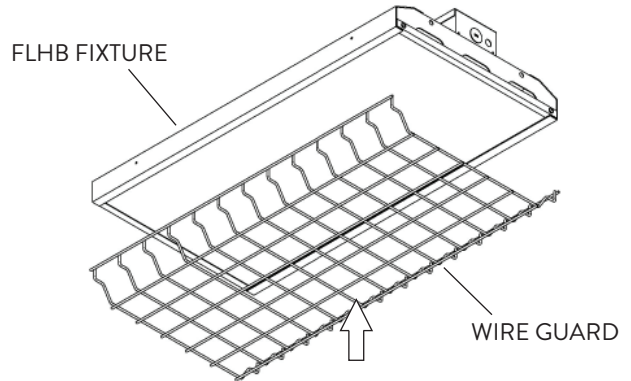

FIG. 18
- 1 The FLHB Fixtures are made in various sizes. It is important to make sure that the Wire Guard is the corresponding size based on the fixture chosen (Fig. 18).